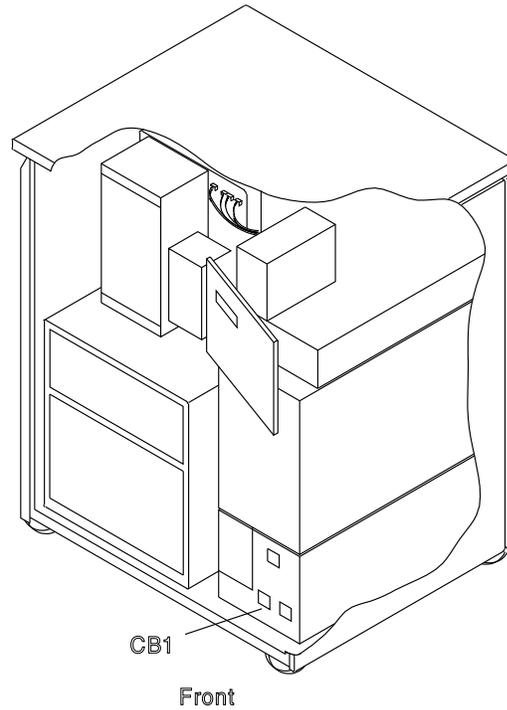

Figure 4-119. CB1 Location
4. **Switch CB1 OFF.** Refer to Figure 4-119